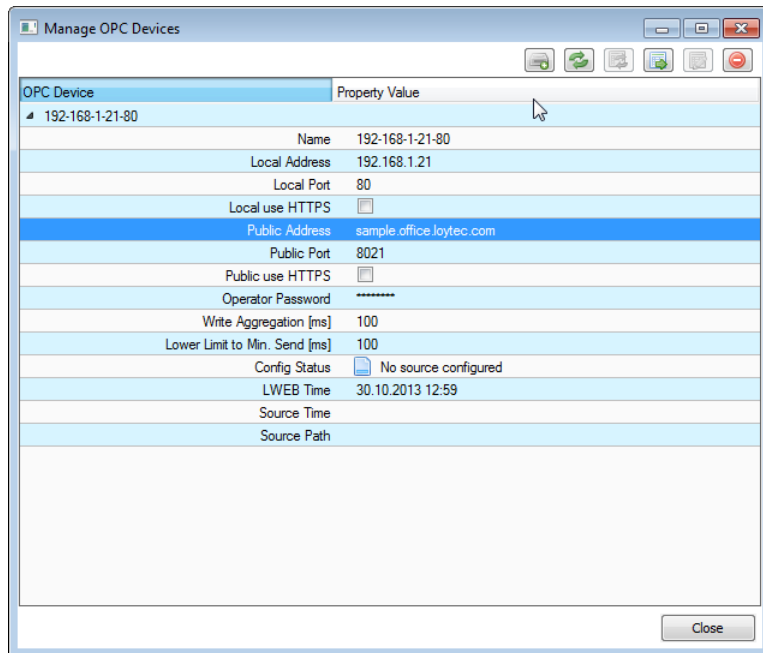

Figure 71: Manage OPC Device, Configure Public Address and Port
- 2) In the input field **Public Address**, enter the IP address or hostname of your router and in the **Public Port** enter the external port which you configured in the port forwarding (see Figure 71).